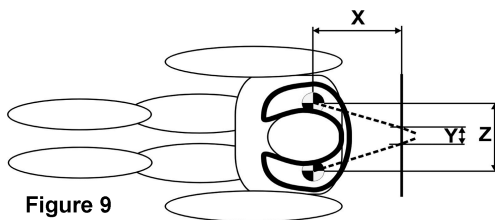

Figure 9
- E. If bolt-in or snap-on mounts are used in conjunction with a three-bar adjuster the complete wrap must be completed as detailed in Figure 9 and described in article 6 below
- D. The shoulder straps shall pass over the driver's shoulders (or over the HANS), through the seat, in a direct line to the attachment points without any interference caused by the seat back openings or other obstacles. The formula  $Y = Z - (X \times .50)$  can be used to determine the "ideal" distance between attachment points (see Figure 9). Where the shoulder belts are wrapped around a harness bar, the Y dimension is measured from the centerline of the webbing of each shoulder strap. Where the shoulder belts are bolted the Y dimension is measured center to center of each mounting bolt.